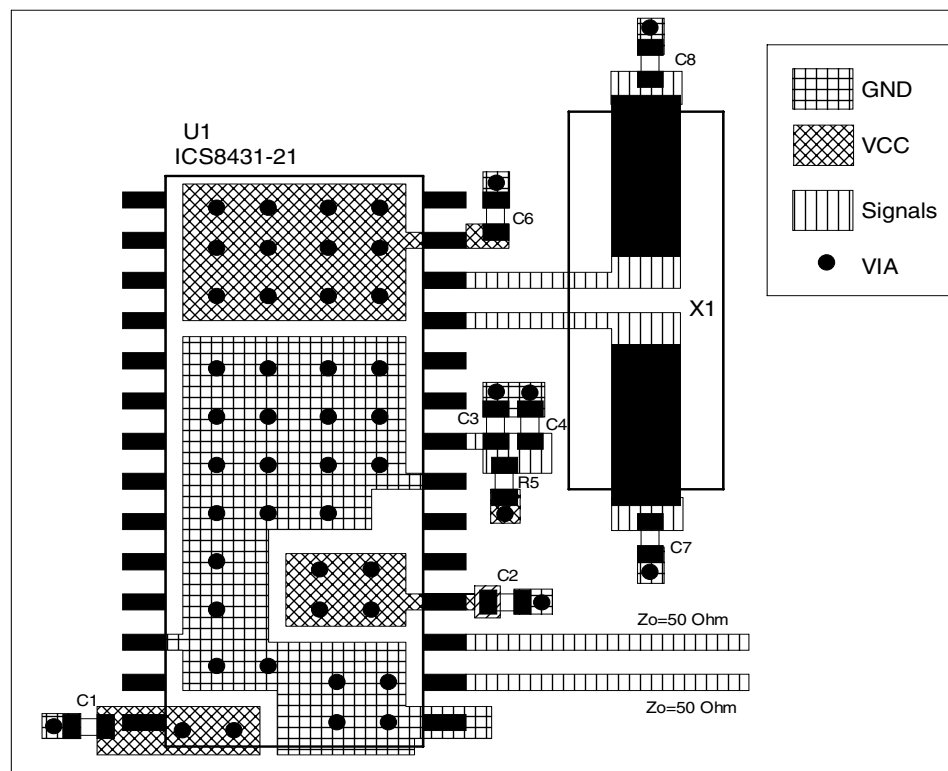

FIGURE 6B. PCB BOARD LAYOUT FOR ICS8431-21
*Figure 6B*. This layout example is used as a general guideline. The layout in the actual system will depend on the selected component types and the density of the P.C. board.